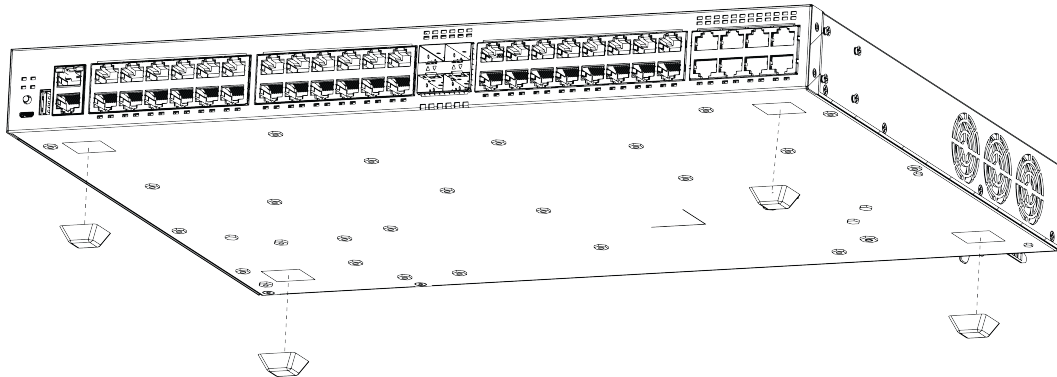

Figure 35: Table Mount: 4220 Series
2. Apply the pads to the underside of the switch by placing a pad at each corner, ensuring that all corners are aligned. Figure 35 shows the locations for attaching the rubber mounting feet on the switch.